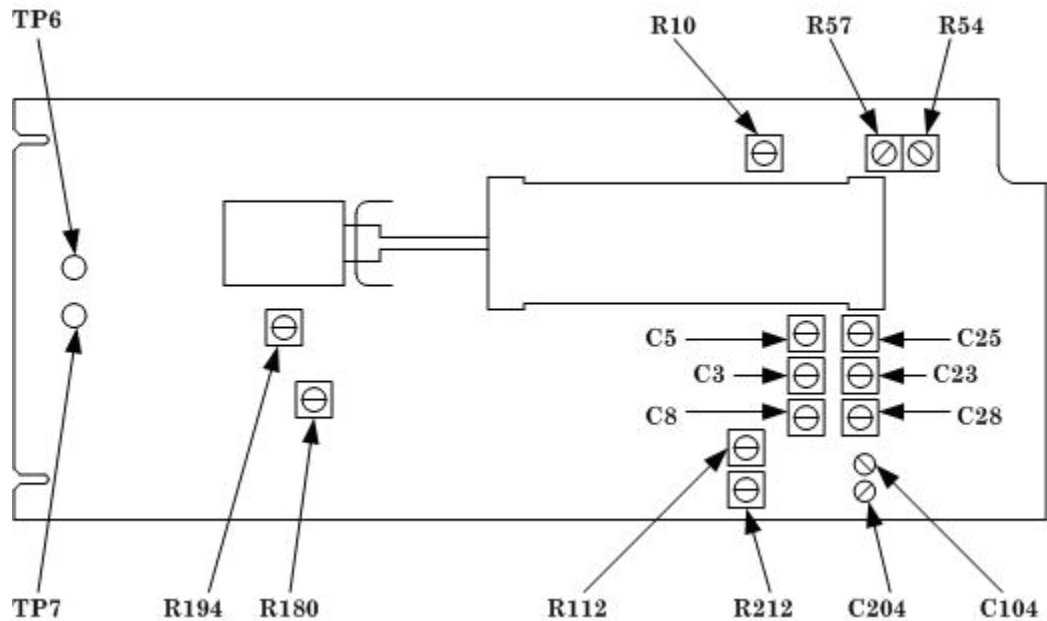

Figure 1. Adjustment locations - left side view.
- (1) Adjust R112 (fig. 1) for minimum oscilloscope trace shift.
- (2) Adjust R212 (fig. 1) for minimum oscilloscope trace shift.
- (3) Adjust R194 (fig. 1) for minimum oscilloscope trace shift while rotating **CAL** control throughout its range.
- (1) Adjust C104 (fig. 1) until trace returns to graticule centerline within ± 1.5 divisions in 0.1 ms (final adjustment made in paragraph **12 b**) (R).
- (2) Adjust C204 (fig. 1) until trace returns to graticule centerline within ± 1.5 divisions in 0.1 ms (final adjustment made in paragraph **12 b**) (R).
(1) Adjust standardizer and C28 (fig. 1) for optimum square wave (R).
(2) Adjust C23 (fig. 1) and C25 (fig. 1) for minimum roll-off and overshoot on leading corner of square waveform (R).
(3) Adjust C8 (fig. 1) for same display as in (1) above (R).
(4) Adjust C3 (fig. 1) and C5 (fig. 1) for same display as in (2) above (R.)
(1) Adjust C104 (fig. 1) or C204 (fig. 1) until oscilloscope display is less than 2 divisions (R). If more than 2 turns are required, adjust C104 (fig. 1) and C204 (fig. 1) in equal and opposite amounts and perform paragraph **10 a** (7).
(2) Adjust R10 (fig. 1) for minimum deflection of oscilloscope display.
(3) Adjust calibrator frequency for 1 kHz and readjust R10 (fig. 1), if necessary, until oscilloscope display is 0.2 division or less.
- (1) Adjust R54 (fig. 1) until multimeter indicates 10.00 Vdc (R).
- (2) Adjust R57 (fig. 1) until multimeter indicates 1.00 Vdc (R).